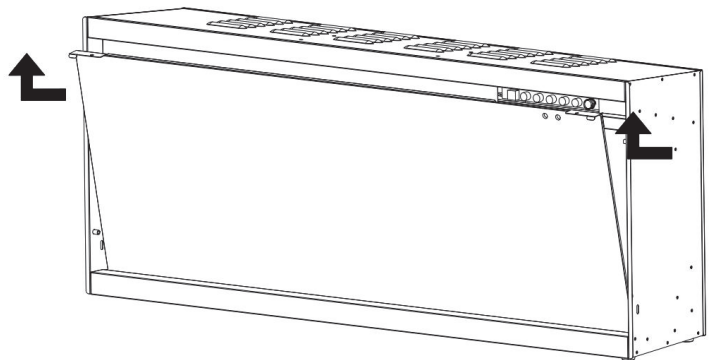

Fig. 2-4
D. Carefully lift the front glass up and away from the appliance. Place it face down on a soft, non-abrasive surface. (Fig. 2-4 )